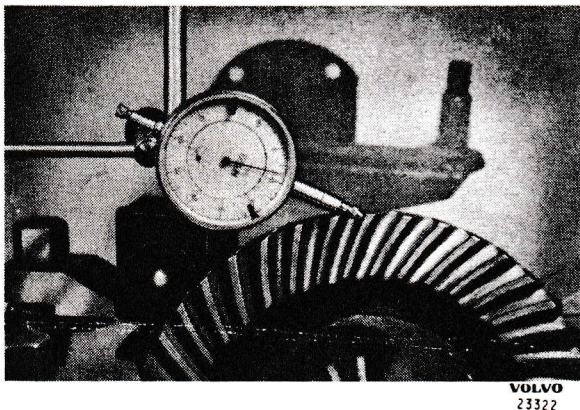

Fig. 28. Measuring the backlash.
13. Measure the backlash as shown in Fig. 28. This should 0.003—0.006".
Each time the position of the pinion is altered, the backlash must be adjusted and checked, see Fig. 28.